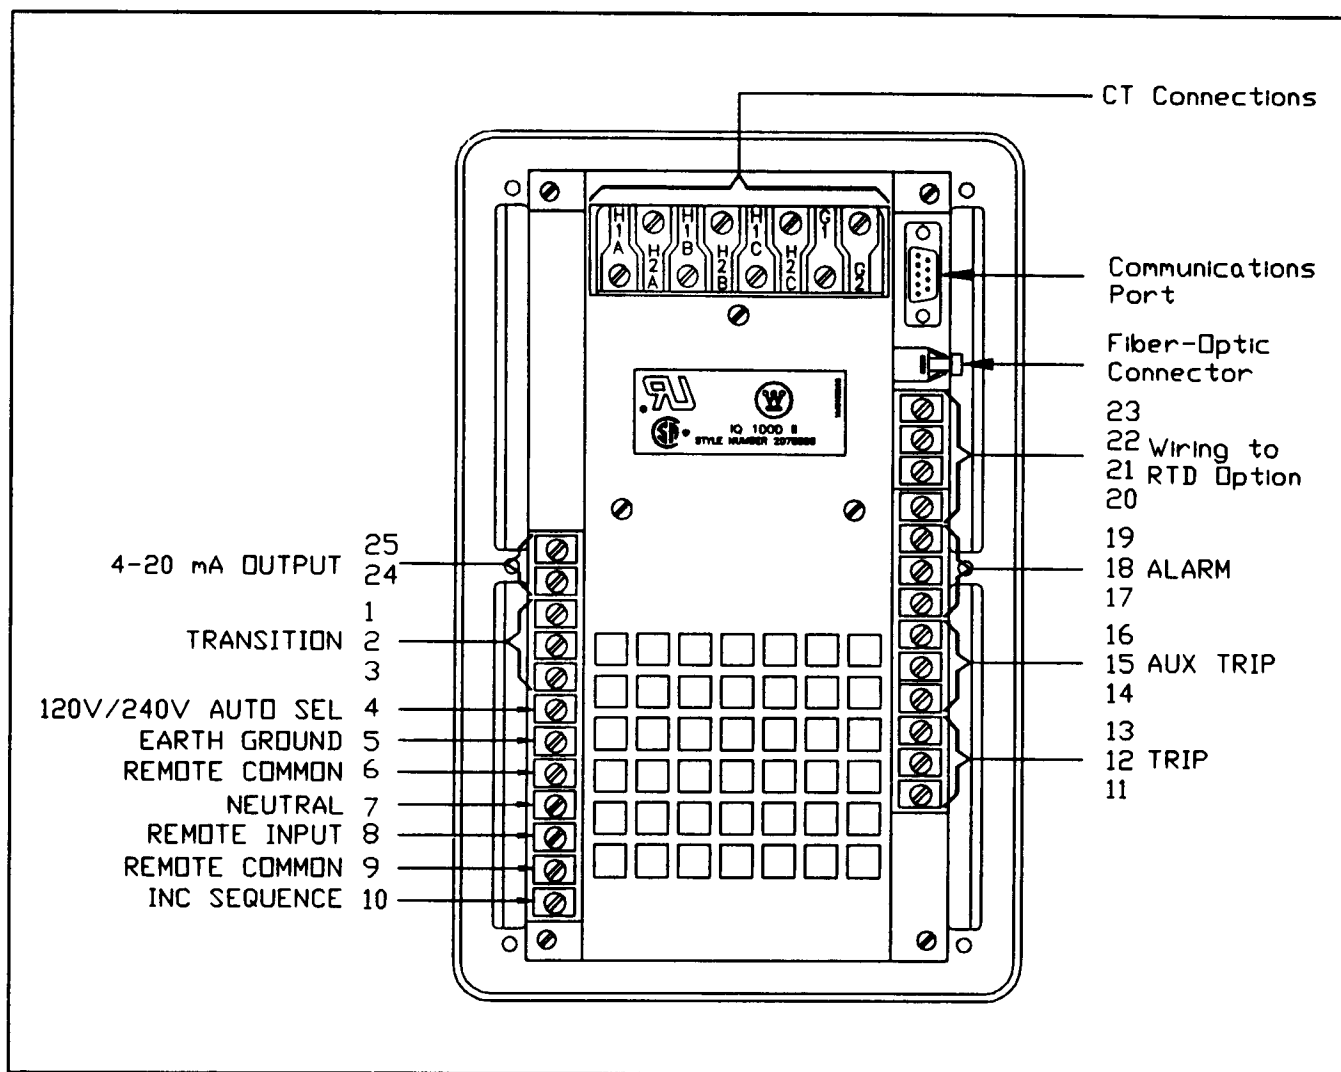

Figure 7.8 — IQ-1000 II Rear Panel Terminals
**7.4.2 Output Contacts** — The IQ-1000 II's output contacts correspond to the externally accessible terminals of the internal relays, as shown in Figure 7.8. These are all rated as: